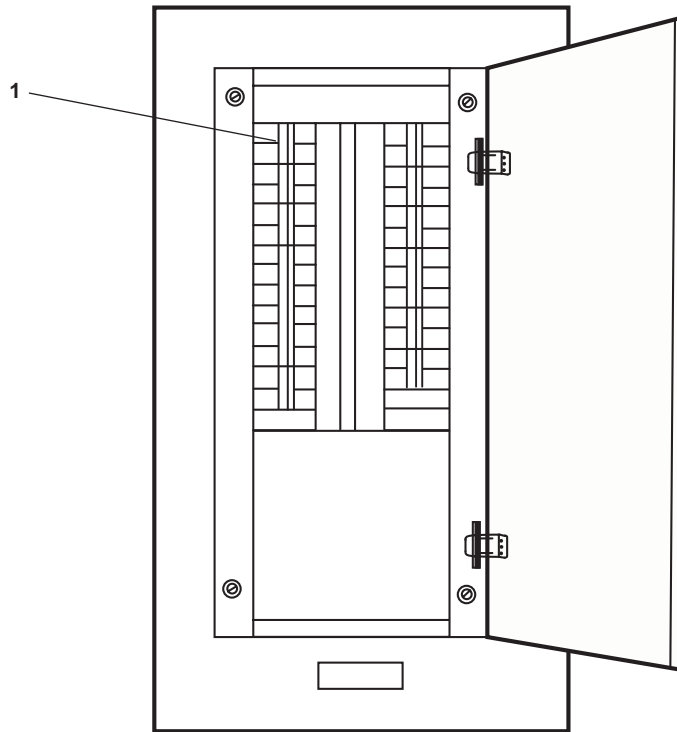

Figure 5. 120V Distribution Panel No. 3
- e. At the 120V distribution panel No. 3, set the MAIN DECK DRINKING FOUNTAIN. circuit breaker (figure 5, item 1) to ON.